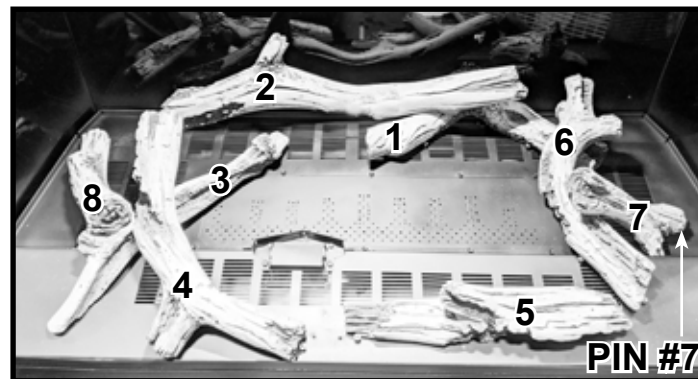

Figure 15 8KMOD / MER42MN Shown - Base Pan Shown Painted
**8KMOD / MER42MN models only:** See Figure 15 for additional details.